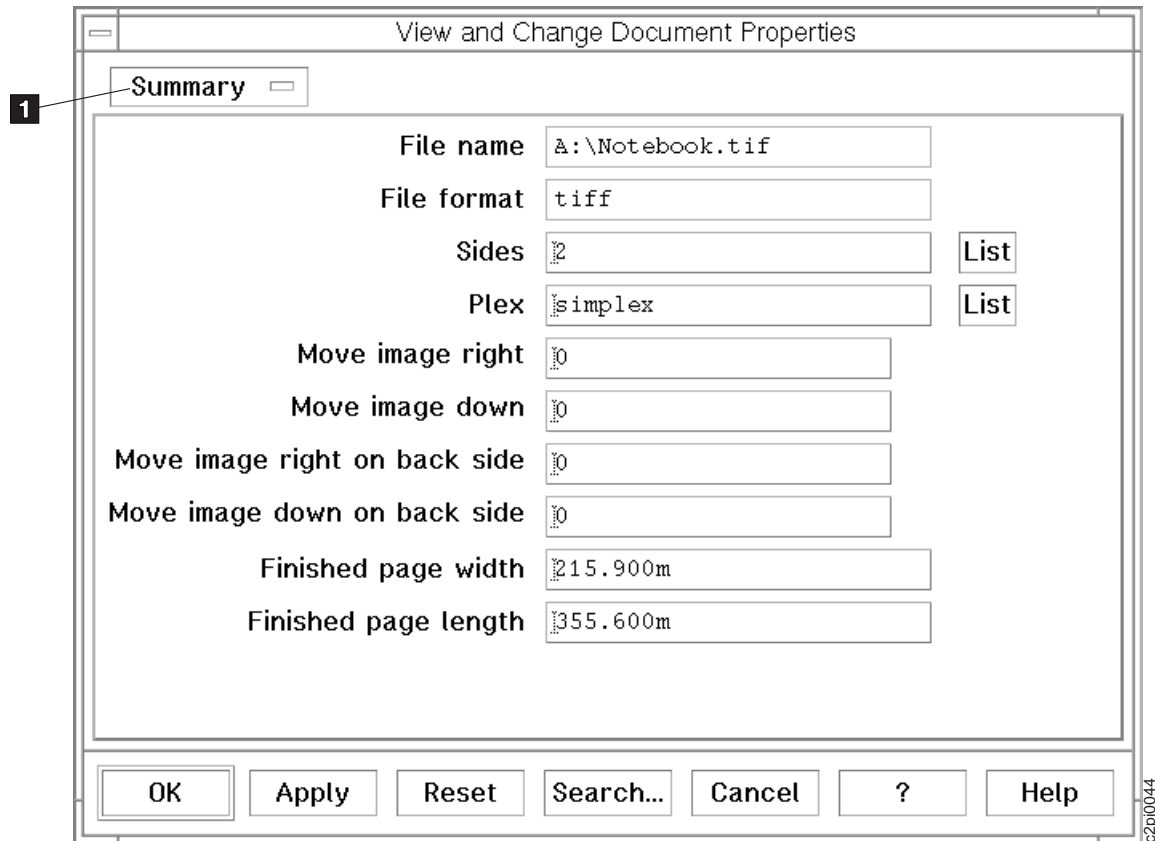

Figure 28. View and Change Document Properties Window 1
5. Double-click on the first file in the job **3**. You see the View and Change Document Properties window (Figure 28 on page 30).